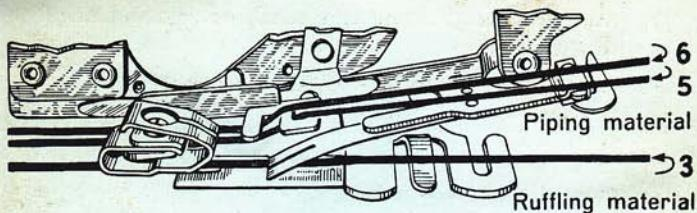

Fig. 58
- 1) Insert material to be ruffled between the two blue blades (LINE 3, Fig. 58).
- 2) Place piping material in ruffler (LINE 5, Fig. 58), with folded edge of piping to right.
- 3) Fold edge of material to which piping and ruffling are to be attached and insert it in ruffler (LINE 6, Fig. 58).